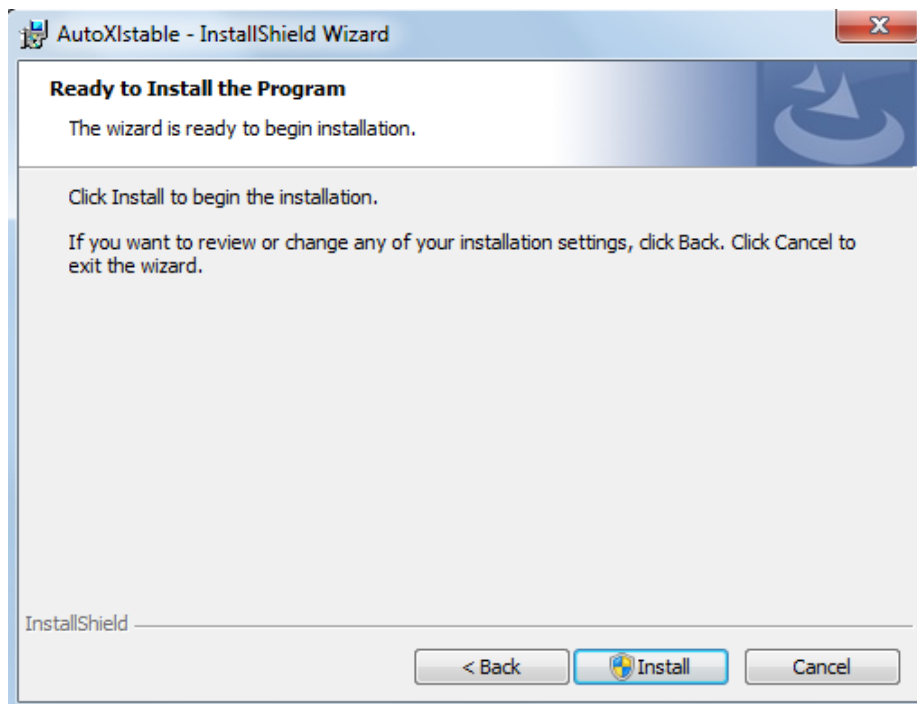

Figure 2-3
3.- Click Install to start the AutoXlstable installation, if you would like to review or modify your Microsoft office version, click back button to return to the previous step. See Figure 2-3.